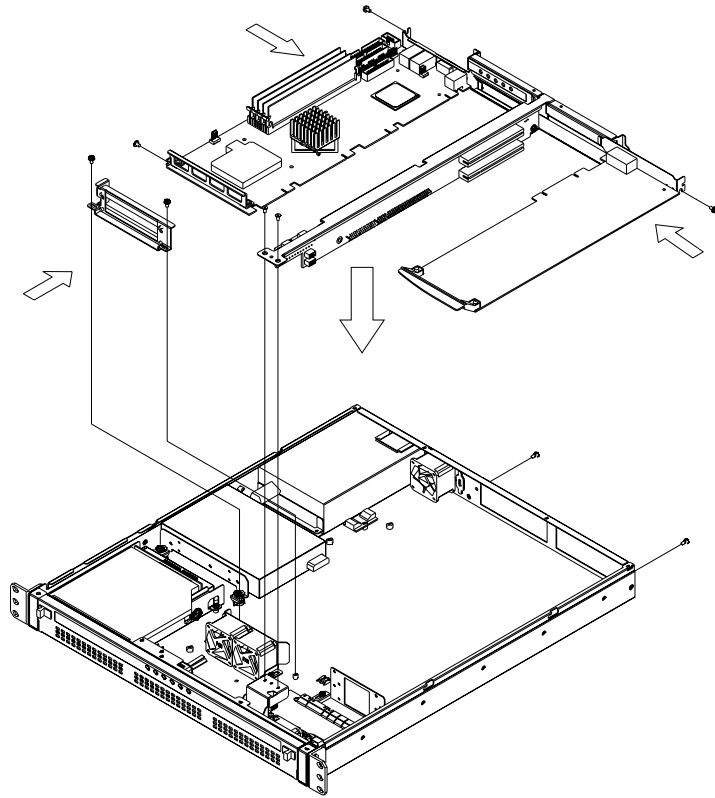

Figure 2.3 Installing a CPU card and add-on card
2. Insert the CPU card (with CPU, cooler, RAM and necessary cables installed) into the slot on the backplane. Then fasten the card guide with screws. (Figure 2.3)